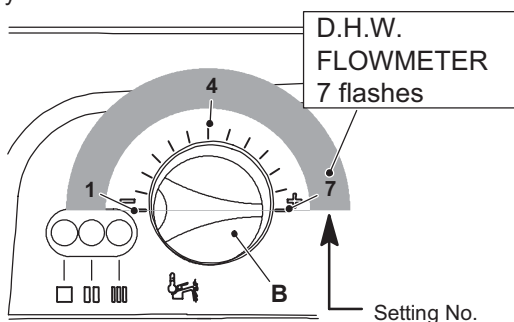

Figure 10.22
At this step it is possible to visualize the current setting by keeping the reset button D pressed for more than 5 seconds. The lamps F will flash a number of times corresponding to the setting (Figure 10.22).
- 5 Change the setting by turning the knob B on the position corresponding to the desired setting (Figure 10.22).
At this step it is possible to visualize the current setting by keeping the reset button D pressed for more than 5 seconds. The lamps F will flash a number of times corresponding to the setting of Figure 10.22 that must be seven times.